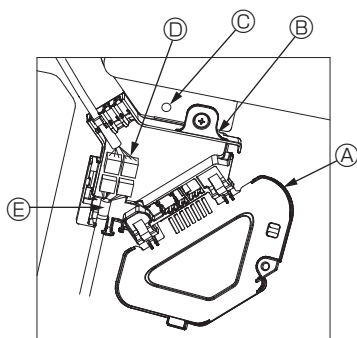

Fig. 10-8
- ① Remove the one screw securing the connector box cover, and then open the cover.
- ② Securely connect the junction wire connector of the vane motor and the panel vane motor wire connector in the connector box. (Fig. 10-8)
- ③ Close the connector box cover.